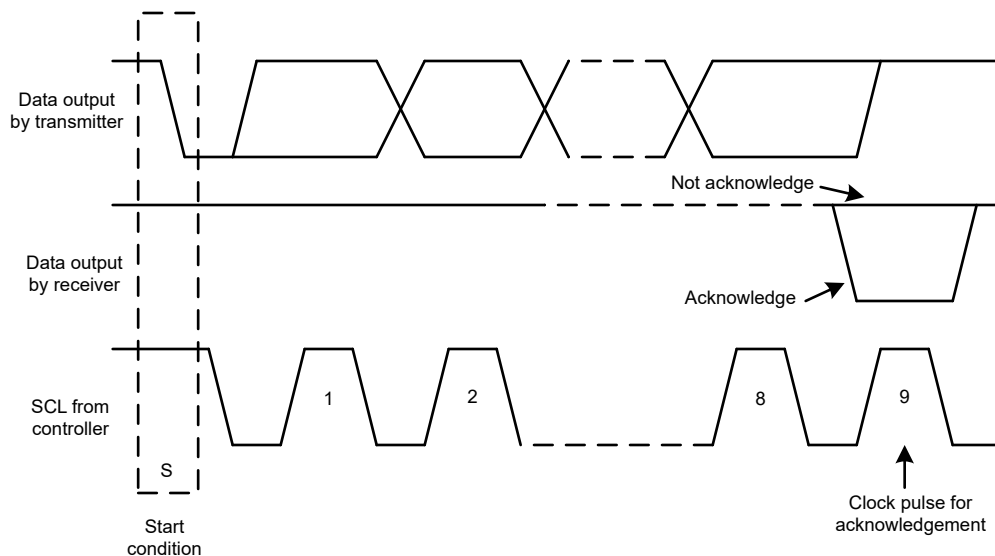
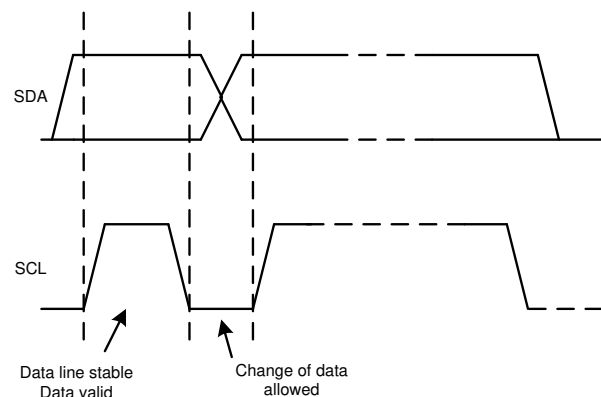

Figure 6-18. Acknowledge and Not Acknowledge on the I²C Bus
Figure 6-20. Bit Transfer on the I²C Bus
Other than specific timing signals, the I²C interface works with serial bytes. At the end of each byte, a ninth clock cycle generates and detects an acknowledge signal. An acknowledge is when the SDA line is pulled low during the high period of the ninth clock cycle. Figure 6-18 depicts a not-acknowledge, when the SDA line is left high during the high period of the ninth clock cycle.
2. The controller then generates the SCL pulses, and transmits the 7-bit address and the read/write direction bit (R/\bar{W}) on the SDA line. During all transmissions, the controller makes sure that data are valid. Figure 6-20 shows that a valid data condition requires the SDA line to be stable during the entire high period of the clock pulse. All devices recognize the address sent by the controller and compare the address to the respective internal fixed address. Only the target device with a matching address generates an acknowledge by pulling the SDA line low during the entire high period of the 9th SCL cycle (see also Figure 6-18). When the controller detects this acknowledge, the communication link with a target has been established.